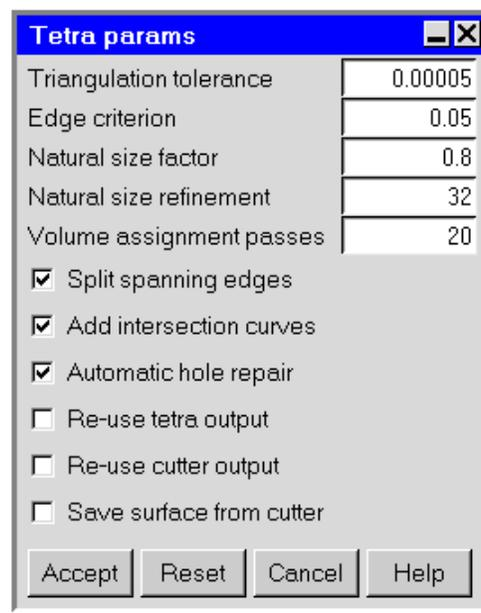

Figure 26.5.2: The Tetra params Panel
6. Additional meshing parameters (which you will generally not need to modify) are in the Tetra params panel (Figure 26.5.2), which you can open by clicking **Advanced parameters** in the Mesh control panel. These parameters are defined below.